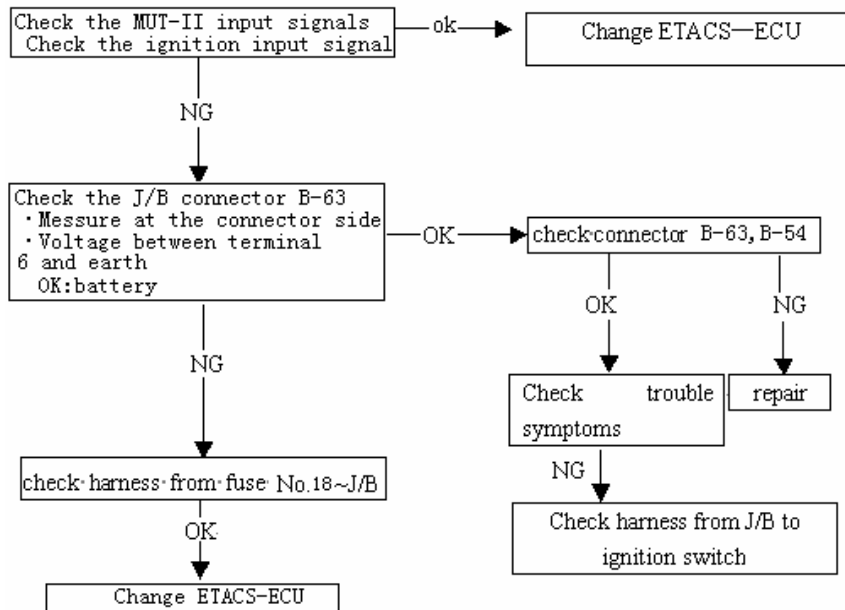

Fig 20—29
4) Trouble symptoms inspection step 2 as table 20—7、 fig 20—30